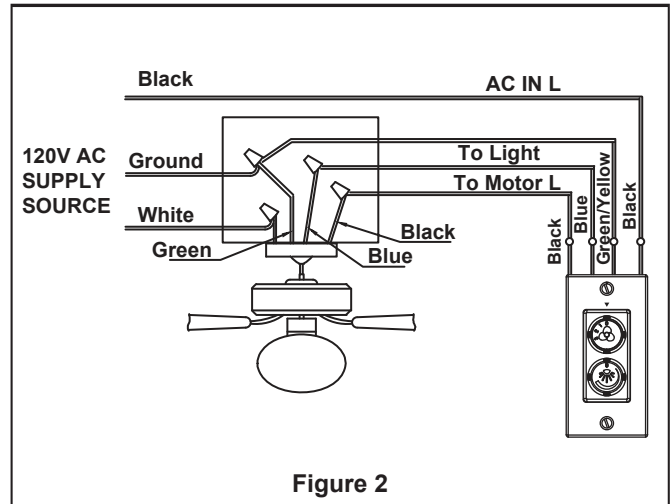

Figure 2
1. Securely attach the outlet box **acceptable for ceiling fan support** into the building structure. Outlet box is not supplied with the fan. (Figure 2)
2. Set the knob and light switch of the wall-mounted control in the off (0) position.
3. Make wire connections and secure with wire nuts supplied. (Figure 2)
2. Assemble the motor assembly to ceiling bracket using the previously removed screws and securely tighten all screws. (Figure 2)